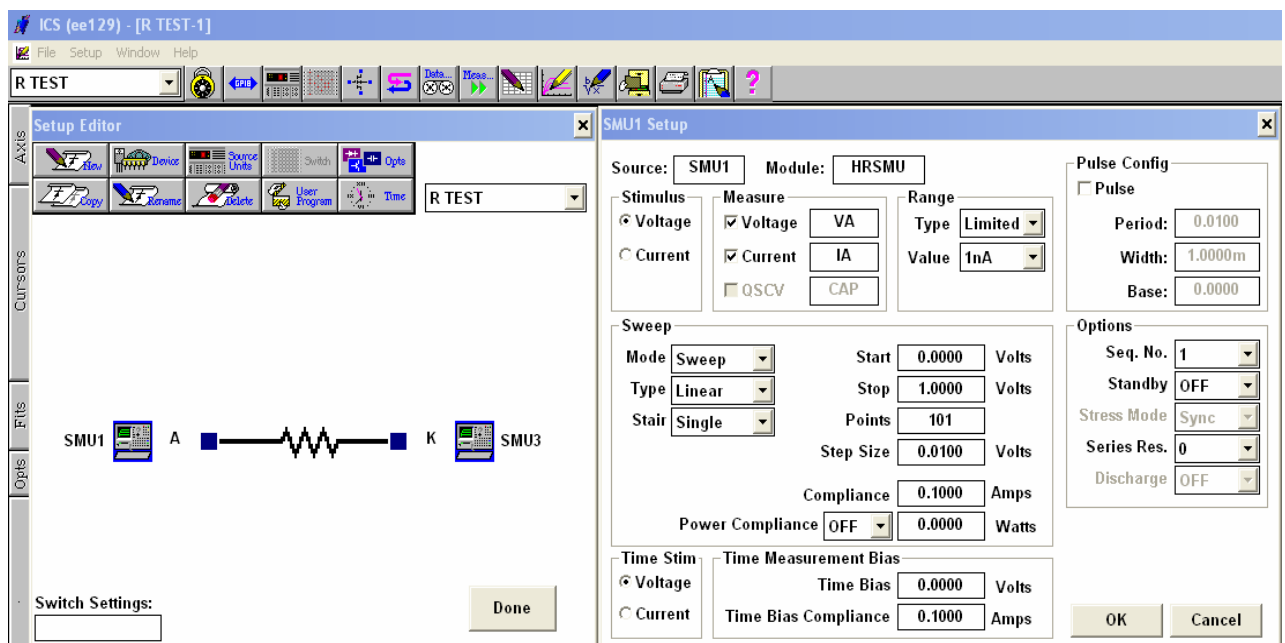

Figure 55: R Test setup editor
- 4 To see the arrangement of the probe connections, go to set up editor in the menu bar. Set up editor should look like figure 55.